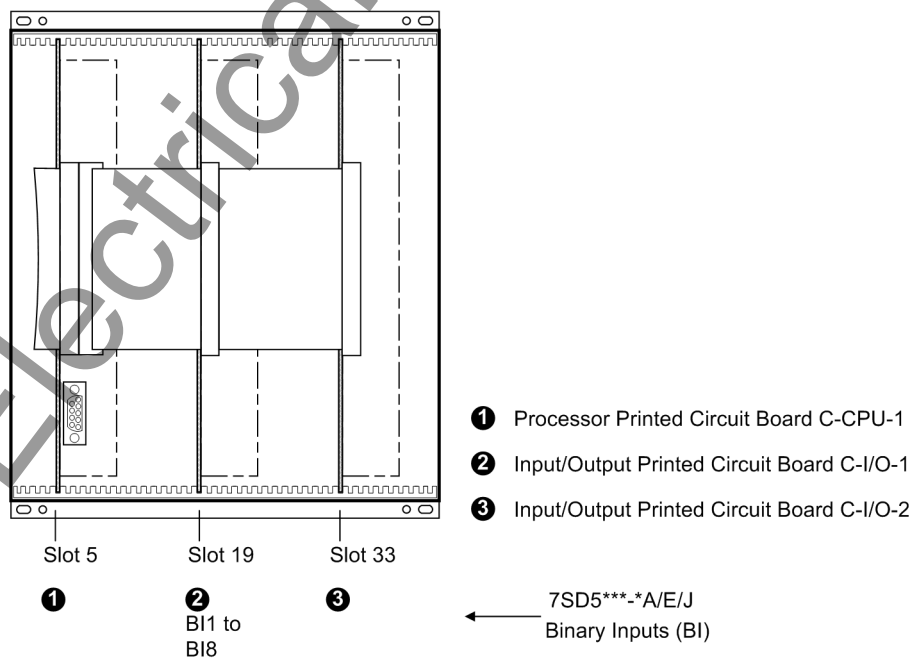
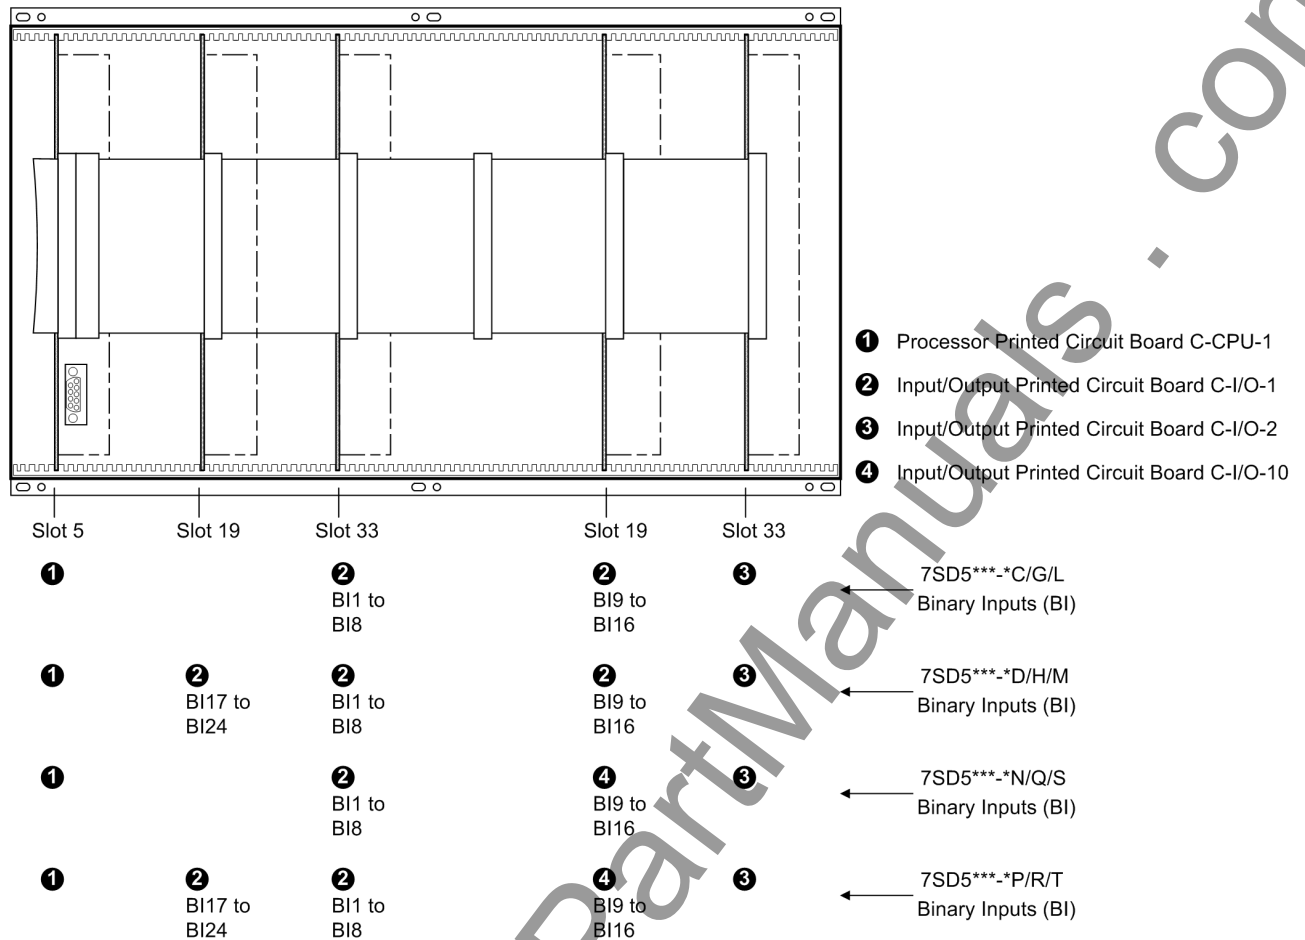

Figure 3-3 Front view with housing size $1\frac{1}{2}$ after removal of the front cover (simplified and scaled down)
Figure 3-4 Front view with housing size $1\frac{1}{1}$ after removal of the front cover (simplified and scaled down)
The assembly of the boards for the housing size $1\frac{1}{2}$ is shown in Figure 3-3 and for the housing size $1\frac{1}{4}$ in Figure 3-4.
- Disconnect the ribbon cables between the processor board C-CPU-1 (No. 1 in Figure 3-3 or 3-4) and the input/output board I/O (according to order variant No. 2 to No. 3 in Figure 3-3 or 3-4).
- On the input/output board C-I/O-1 (No. 2 in Figure 3-3, slot 19) for housing size $1\frac{1}{2}$,
- On the input/output board C-I/O-1 (No. 2 in Figure 3-4, slot 33 left) for housing size $1\frac{1}{1}$,
- In versions 7SD5***-***D/H/M** (housing size $\frac{1}{1}$ with 32 binary outputs) this is valid for the binary outputs BO16 and BO24 (Figure 3-4, slot 19 left and right);
- In versions 7SD5***-***C/G/L** (housing size $\frac{1}{1}$ with 24 binary outputs) this is valid for the binary output BO16 (Figure 3-4, slot 19 right);
- In versions 7SD5***-***P/R/T** (housing size $\frac{1}{1}$ with 32 binary outputs and command acceleration) this is valid for the binary output BO24 (Figure 3-4, slot 19 left).
with housing size $1\frac{1}{2}$: No. 3 in Figure 3-3, slot 33,
with housing size $1\frac{1}{4}$: No. 3 in Figure 3-4, slot 33 right.
The interface modules are located on the processor board C-CPU-1 (No. 1 in Figure 3-3 and 3-4).